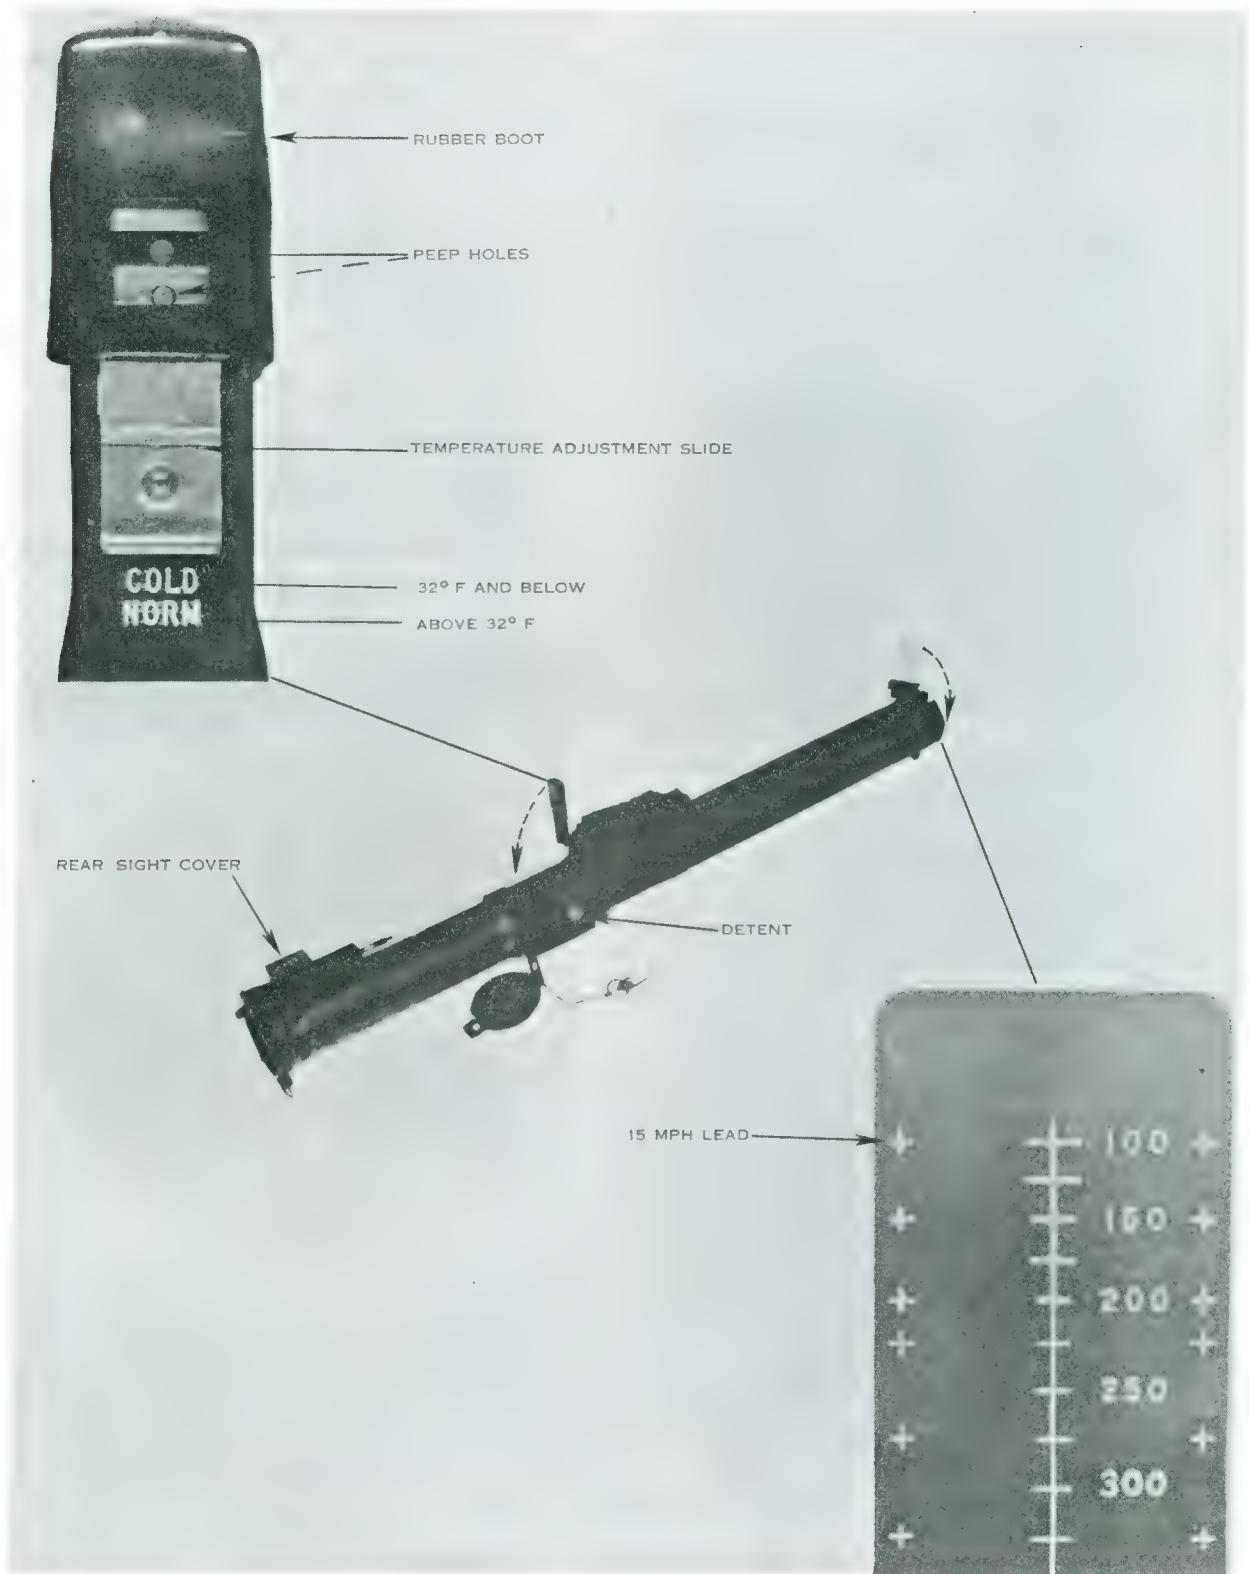

Figure 7. M72 sights.
The front sight on the M72 (fig. 7) is made of clear plastic and has a sight reticle stamped upon it. The reticle has a vertical centerline that is graduated in 25-meter increments from 100 to 325 meters. On either side of the vertical centerline are 15 mile per hour lead marks which appear at the following ranges: 100, 150, 200, 225, 275, and 325 meters. These marks are placed on the reticle to aid the gunner in tracking a moving target.
The rear sight (fig. 7) consists of two stamped metal parts and a rubber boot. The fixed portion of the sight is marked with the words COLD and
b. In the event the M72 is prepared for firing but is not fired, it may be returned to the carry position by reversing the preparation procedure. First reset the trigger safety and then remove the launcher from the shoulder. Replace the rear safety pin. Depress the detent (fig. 7) and partially collapse the launcher. Fold the rear sight down so that it
a. Rear Sight. The rear sight on the M72 is basically a simple peepsight. Before sighting, the gunner should inspect the sight to insure the slide is in the correct position or setting for the existing conditions of temperature (fig. 7). The gunner sights through the rear sight by placing his eye on line with the peephole and sighting toward the front sight reticle.